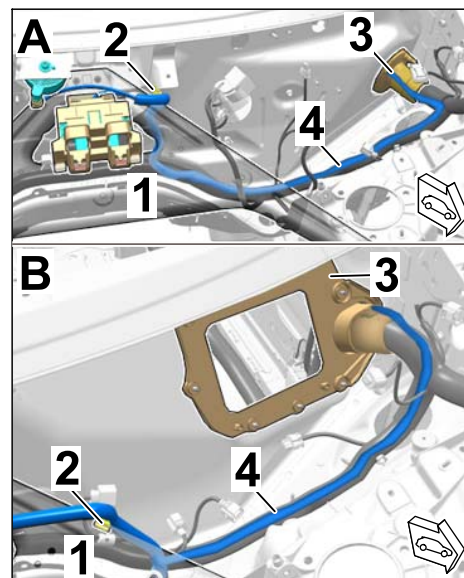

Figure 18
- 2.3.2 Lay the wire harness for the engine noise to the grommet on the bulkhead (in the A-pillar plenum panel area – left (⇒ *Figure 18*):